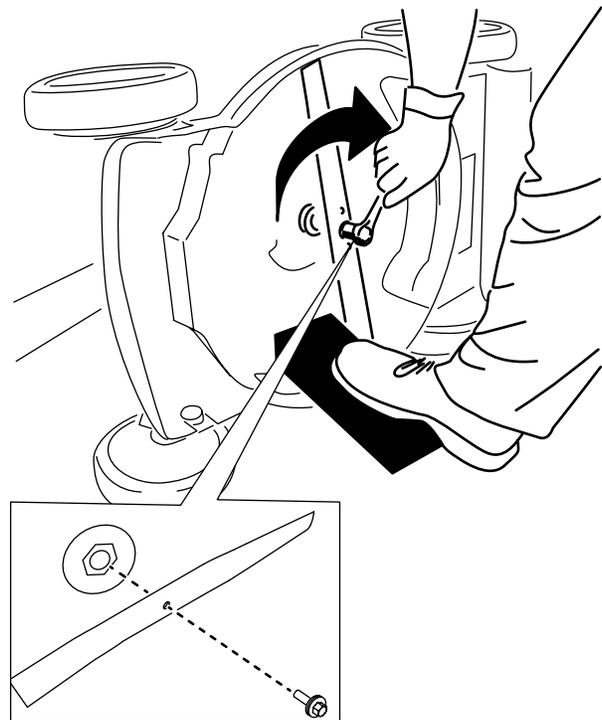

Figure 16
4. Install the new blade and the blade bolt (Figure 16).